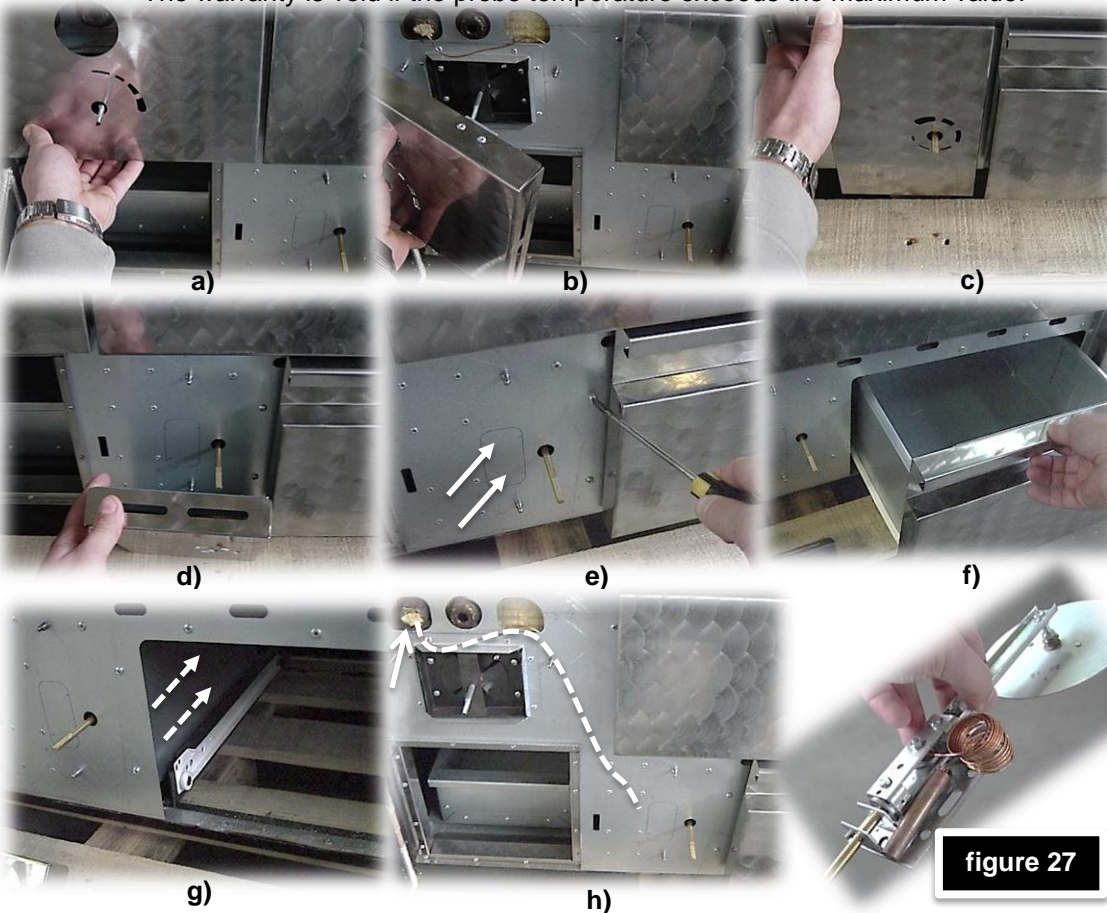

figure 27
- remove the secondary air regulator PVC wheel (11) by pulling it towards yourself,
- remove the lid beneath the upper door (8) by pulling towards yourself (*figures 27 a and b*),
- remove the automatic regulator PVC wheel (12) by pulling it towards yourself,
- remove the lid beneath the automatic regulator by pulling towards yourself (*figures 27 c and d*),